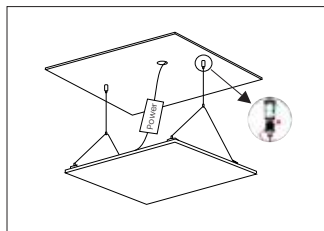

Figure 3
3. Lock the lockpart of the main wire rope to the wire rope hanger, connect with the power cable. (Figure 3)